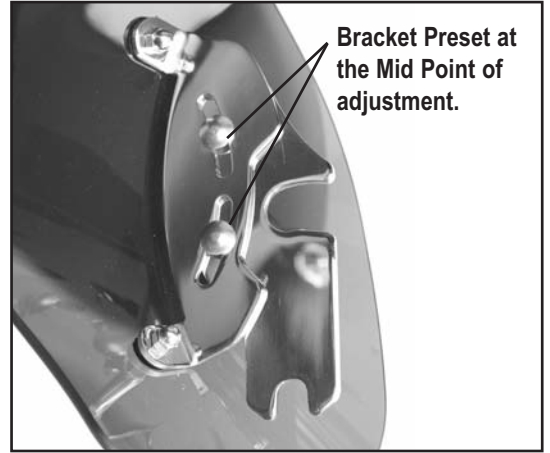

Figure 2
3. The fairing brackets are preset at the mid point of the adjustment range. Before making adjustments to this bracket, install the shield onto the motorcycle first. Refer to Final Adjustment, page 3. **Figure 2**